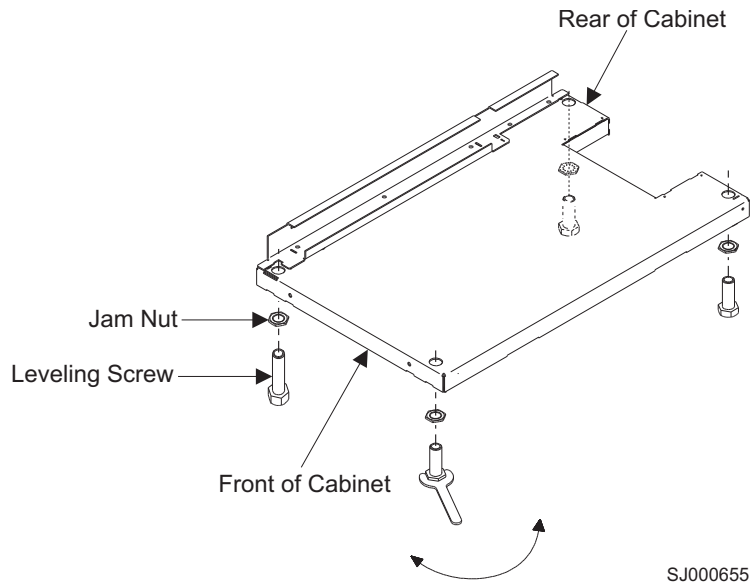

Figure 66. Adjusting the leveling feet
1. Loosen the jam nut on each leveling foot by turning the nut counterclockwise, away from the bottom of the rack. See Figure 66 on page 201.